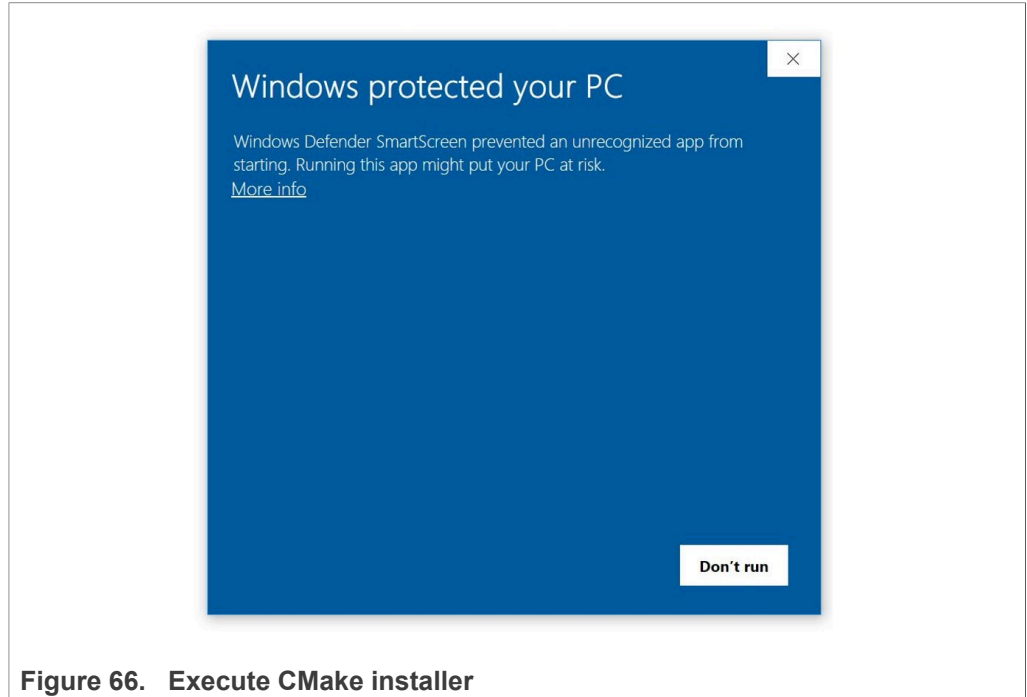

Figure 66. Execute CMake installer
- Double click on the downloaded installer file. Windows Defender SmartScreen might pop-up the wizard shown in Figure 66: